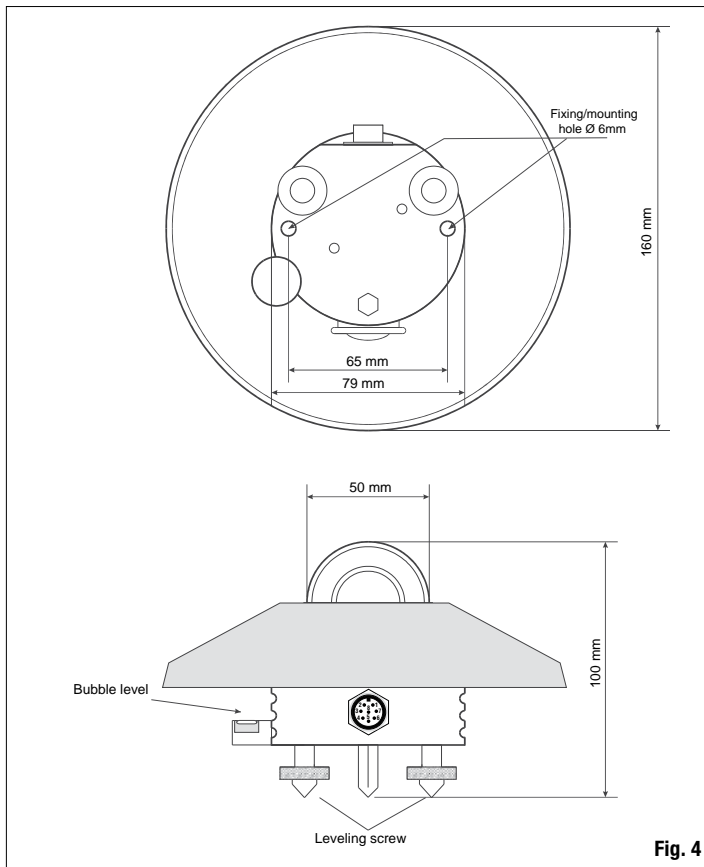

Fig. 4
- The LPUVB02 radiometer is provided with a spirit level for carrying an accurate horizontal leveling. The adjustment is made by means of two leveling screws that allow to adjust the radiometer inclination. Use the two 6mm-diameter and 65mm-interaxial-distance holes to mount the instrument on a plane. Remove the shade disk to access the holes and reposition it after mounting (see Fig. 4).